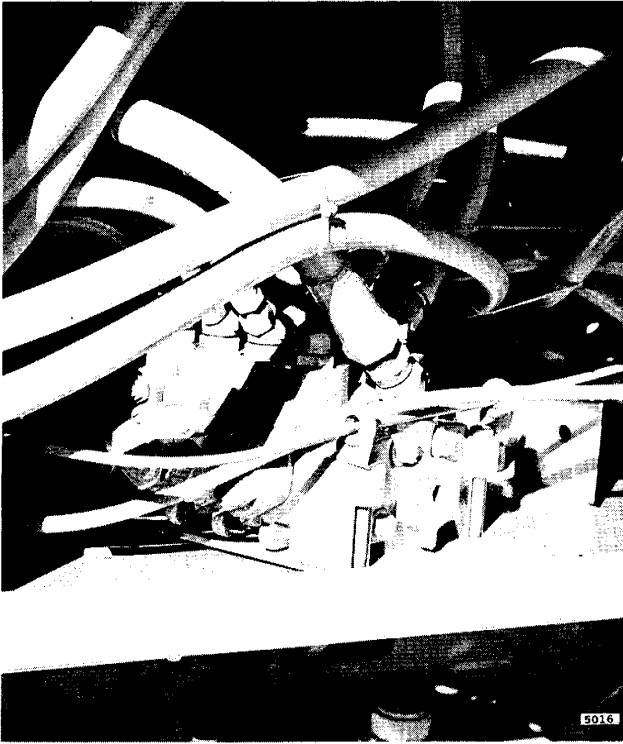

Figure 2-16. Control Valves
4. **Control Valves.** Hydraulic system control is provided by a set of four-way, dual-action control valves with integral load check, main, and circuit check relief valves. (See Figure 2-16.) Three separate banks of valves permit multiple control of crane functions. Main relief valves have maximum relief settings of 2250 psi.